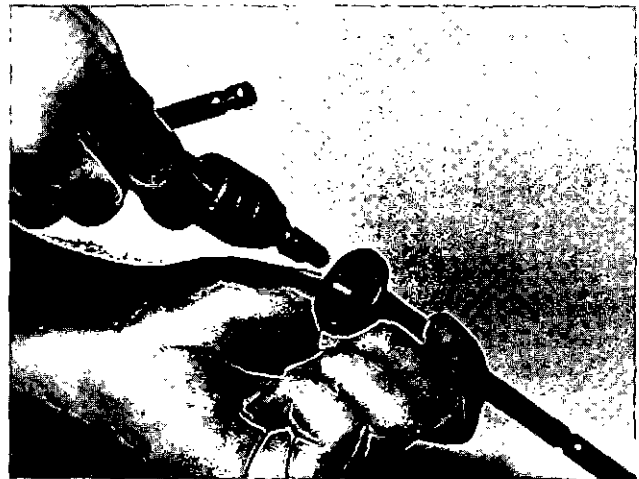

Fig. 3-15, (F60110). Use the tap holder to pull the link
3. A collet type hand tap holder can be used to pull the sleeve type injector link, Fig. 3-15.